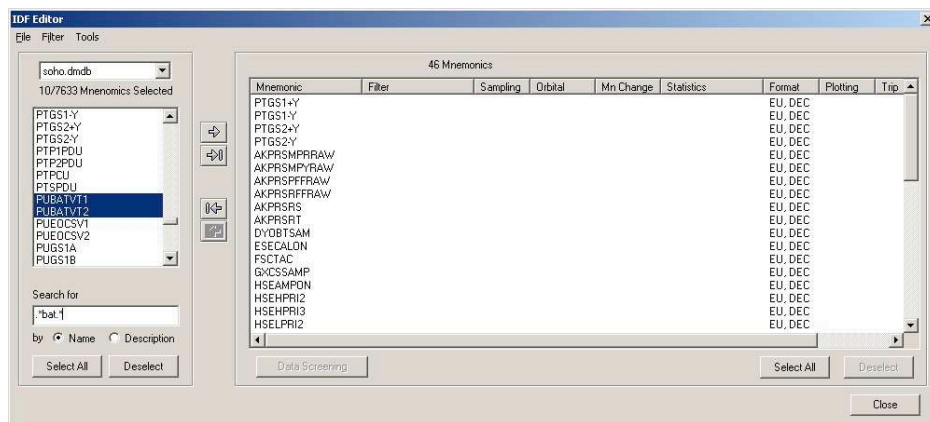

Figure 67: IDF Editor Mnemonic Search
- Enter a search string in the “Search for” box on the IDF Editor main window (see *Figure 67*).
- Select “Filter” on the IDF Editor main window (see Figure 67).